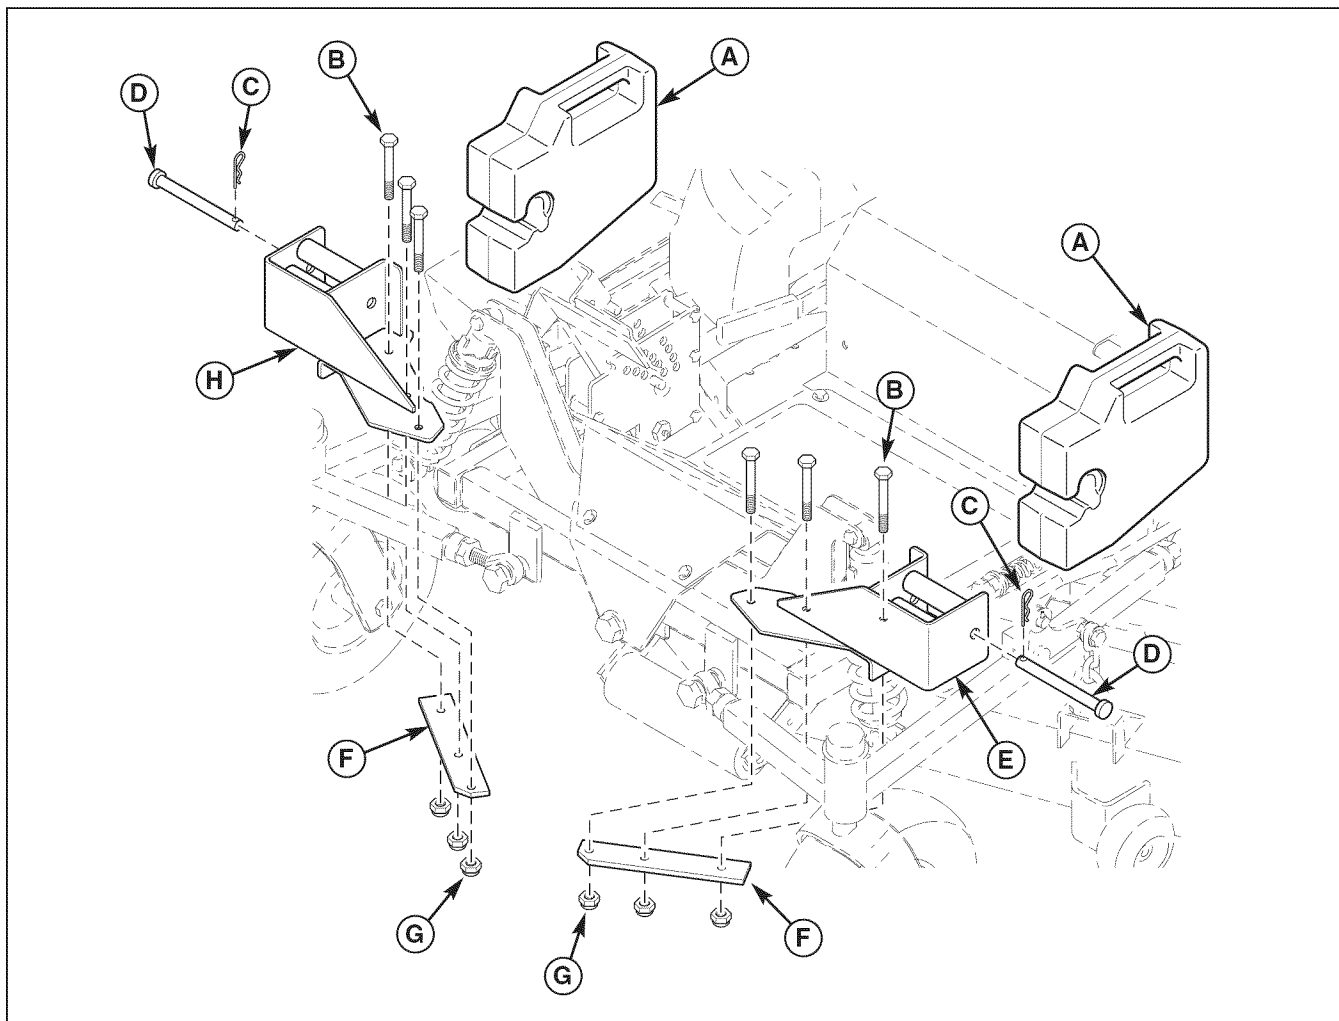

Figure 47. Install Weight Carriers
1. Install the left-hand and right-hand weight carriers (E & H, Figure 47), bar clamps (F) and fasten with the 5/16-18 x 2-1/2" bolts (B) and 5/16-18 nylon lock nuts (G). Make sure carriers are tight against the outside of the suspension arm and do not interfere with the shock/spring assembly. Tighten securely.
2. Install the counter weights (A) in the weight carrier and secure with the clevis pins (D) and hair pin clips (C).